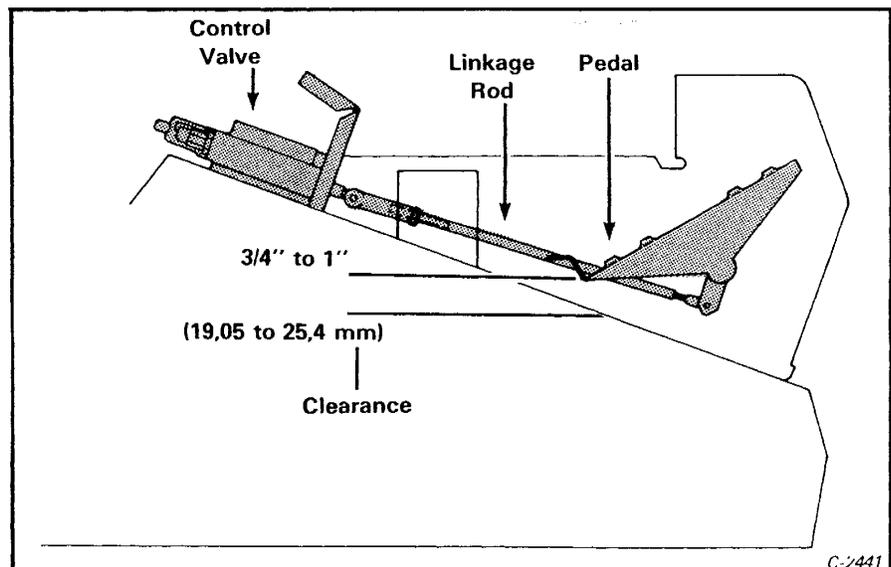

Fig. 1-38 Pedal Adjustment
- (1) Remove the connecting pin at the control valve spool.
- (2) Loosen the yoke lock nut on the rod.
- (3) Turn the yoke on the rod to lengthen or shorten the rod (Fig. 1-38).
- (4) Tighten the lock nut. Install the yoke pin and cotter pin.